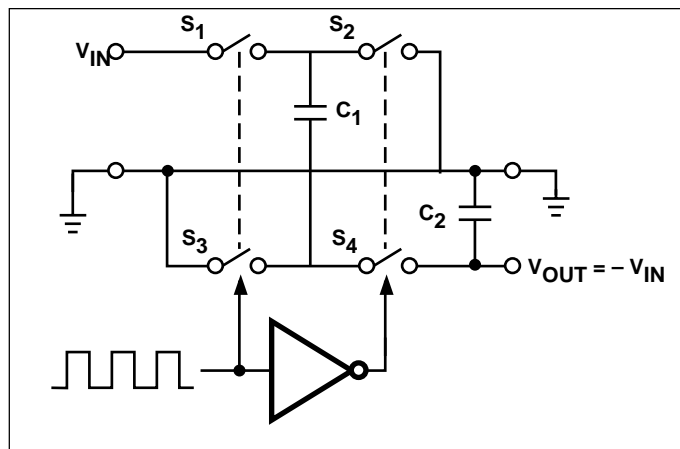
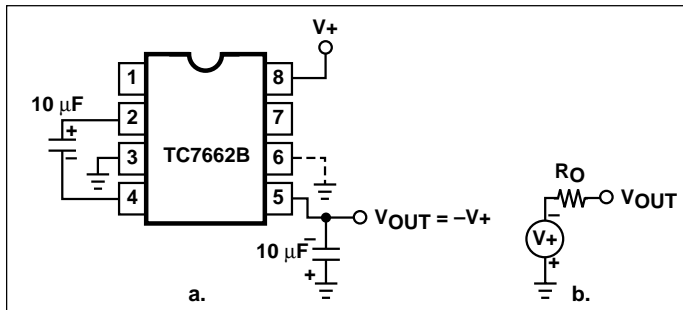
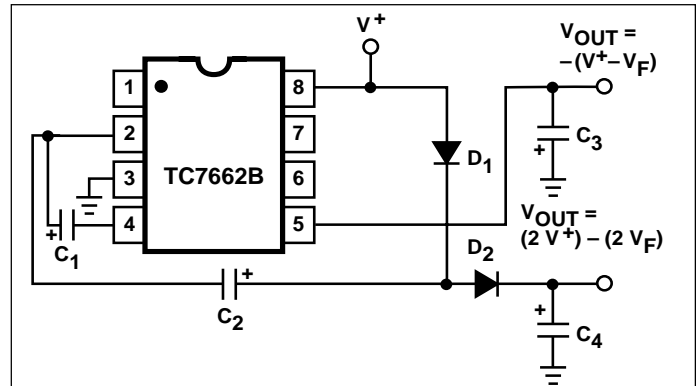

Figure 2. Idealized Negative Voltage Capacitor
Figure 3. Simple Negative Converter and its Output Equivalent
Figure 10. Combined Negative Converter and Positive Doubler
ELECTRICAL CHARACTERISTICS: $V^+ = 5V$, $T_A = +25^\circ C$, OSC = Free running, Test Circuit Figure 2, Unless Otherwise Specified.
The TC7662B contains all the necessary circuitry to complete a negative voltage converter, with the exception of two external capacitors which may be inexpensive 1 μ F polarized electrolytic types. The mode of operation of the device may be best understood by considering Figure 2, which shows an idealized negative voltage converter. Capacitor C_1 is charged to a voltage V^+ for the half cycle when switches S_1 and S_3 are closed. (Note: Switches S_2 and S_4 are open during this half cycle.) During the second half cycle of operation, switches S_2 and S_4 are closed, with S_1 and S_3 open, thereby shifting capacitor C_1 negatively by V^+ volts. Charge is then transferred from C_1 to C_2 such that the voltage on C_2 is exactly V^+ , assuming ideal switches and no load on C_2 . The TC7662B approaches this ideal situation more closely than existing non-mechanical circuits.
In the TC7662B, the four switches of Figure 2 are MOS power switches; S_1 is a P-channel device and S_2 , S_3 and S_4 are N-channel devices. The main difficulty with this approach is that in integrating the switches, the substrates of S_3 and S_4 must always remain reverse biased with respect to their sources, but not so much as to degrade their "ON" resistances. In addition, at circuit start up, and under output short circuit conditions ($V_{OUT} = V^+$), the output voltage must be sensed and the substrate bias adjusted accordingly. Failure to accomplish this would result in high power losses and probable device latchup.
where V_1 and V_2 are the voltages on C_1 during the pump and transfer cycles. If the impedances of C_1 and C_2 are relatively high at the pump frequency (refer to Figure 2) compared to the value of R_L , there will be a substantial difference in voltages V_1 and V_2 . Therefore, it is desirable not only to make C_2 as large as possible to eliminate output voltage ripple, but also to employ a correspondingly large value for C_1 in order to achieve maximum efficiency of operation.
The majority of applications will undoubtedly utilize the TC7662B for generation of negative supply voltages. Figure 3 shows typical connections to provide a negative supply where a positive supply of +1.5V to +15V is available. Keep in mind that pin 6 (LV) is tied to the supply negative (GND) for supply voltages below 3.5 volts.
The output characteristics of the circuit in Figure 3 can be approximated by an ideal voltage source in series with a resistance as shown in Figure 3b. The voltage source has a value of $-(V_+)$. The output impedance (R_O) is a function of the ON resistance of the internal MOS switches (shown in Figure 2), the switching frequency, the value of C_1 and C_2 , and the ESR (equivalent series resistance) of C_1 and C_2 . A good first order approximation for R_O is:
Figure 10 combines the functions shown in Figures 3 and 9 to provide negative voltage conversion and positive voltage doubling simultaneously. This approach would be, for example, suitable for generating +9V and -5V from an existing +5V supply. In this instance, capacitors C_1 and C_3 perform the pump and reservoir functions, respectively, for the generation of the negative voltage, while capacitors C_2 and C_4 are pump and reservoir, respectively, for the doubled positive voltage. There is a penalty in this configuration which combines both functions, however, in that the source impedances of the generated supplies will be somewhat higher due to the finite impedance of the common charge pump driver at pin 2 of the device.